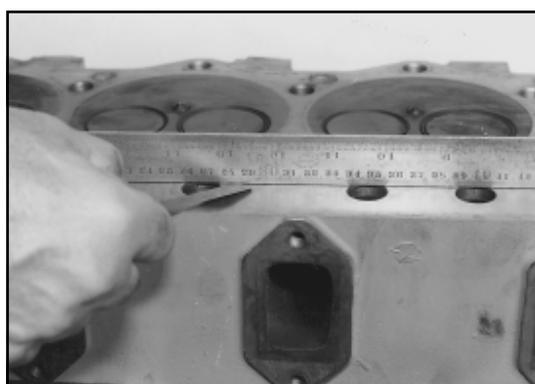

Fig.9-33
- Flatness to be checked at 6 places as shown in the Fig.9-33